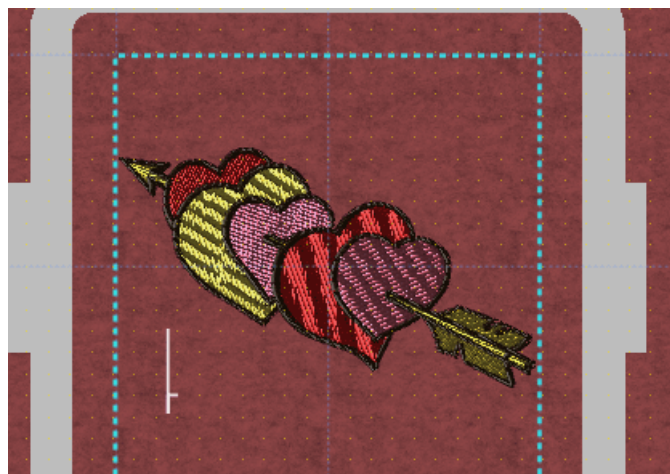

Figure 2.37: We changed the colors of the imported stitch file
25. Change the objects colors by following the steps above, and then produce the design shown in Figure 2.37